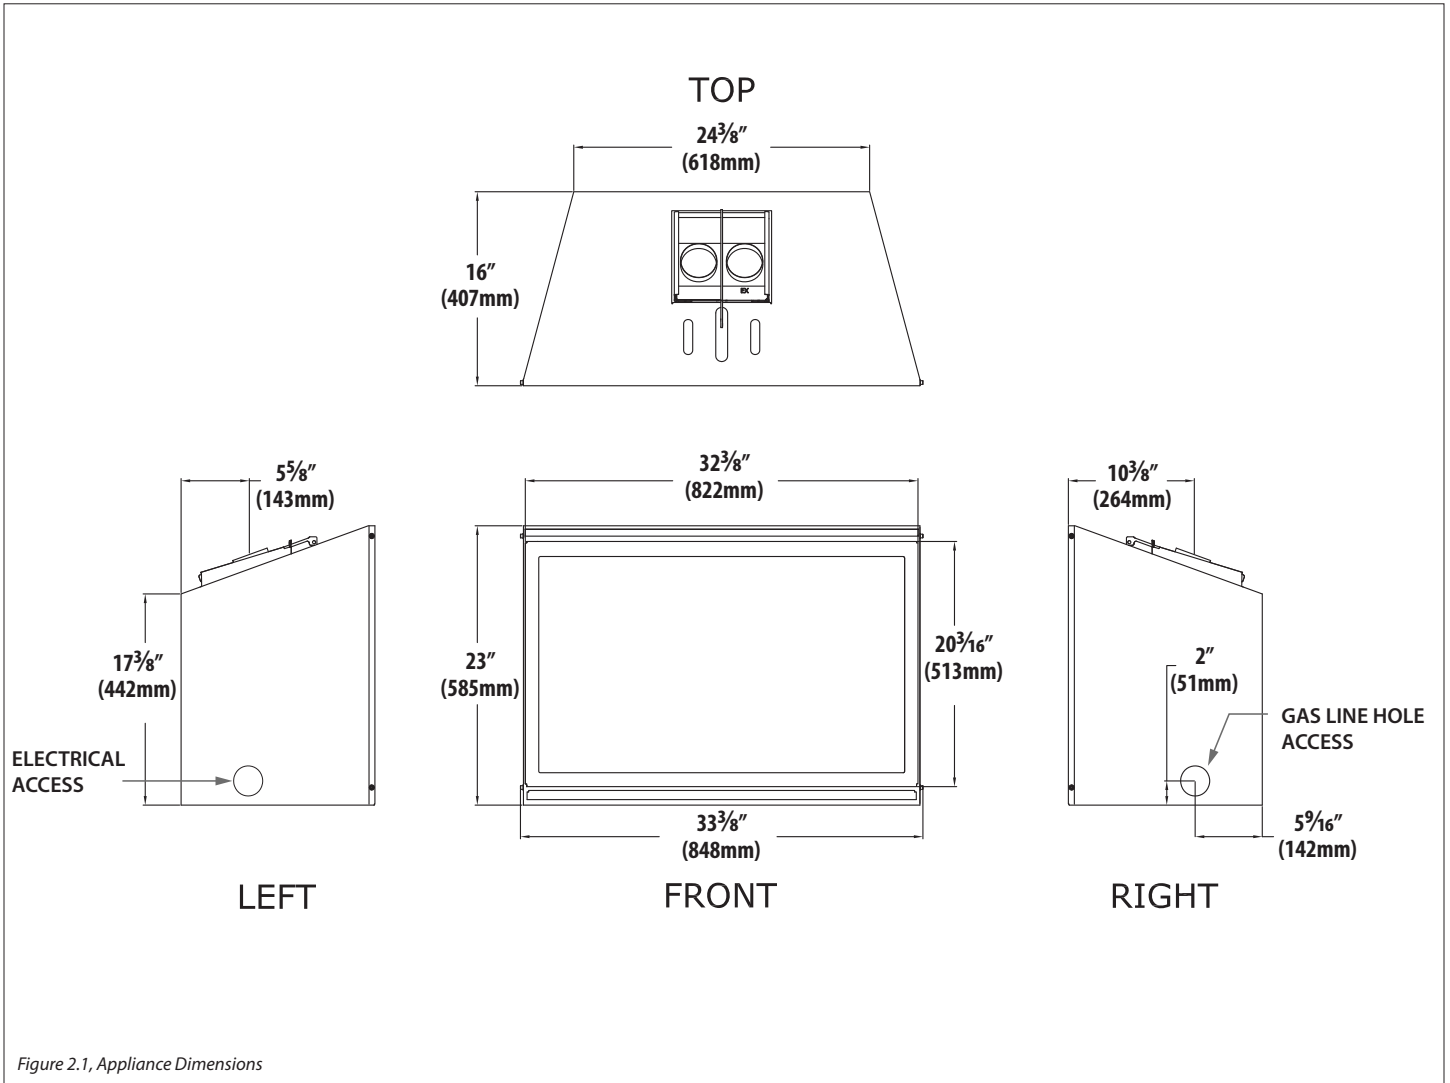

Figure 2.1, Appliance Dimensions
- A gas line must be able to be installed to the fireplace insert. Please refer to Figure 2.1, Appliance Dimensions on page 9. The gas line access hole is located on the right side of the insert.
- See Figure 2.1 on page 9 for electrical outlet box location to run any necessary electrical wiring to the gas fireplace insert.